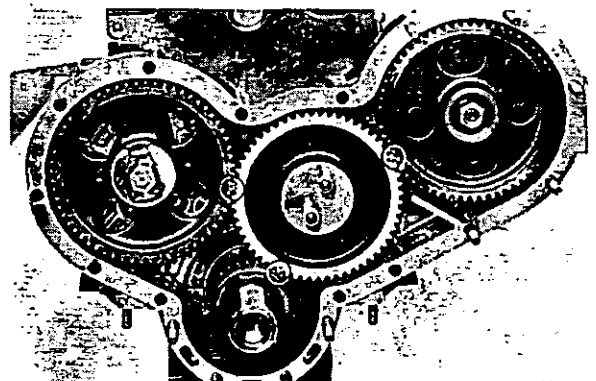

Fig. J.7
3. Fit the timing gears ensuring the timing marks are correctly aligned (Fig. J.7) and tighten to torque given in Section B. If the cylinder head is fitted and the crankshaft and/or camshaft have to be turned, then the rocker assembly may have to be released, see Section E.